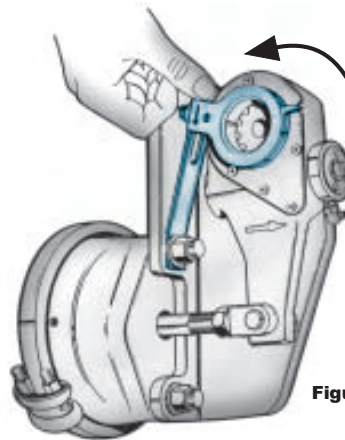

Figure 15
- Rotate the control arm away from the adjusting hex toward the air chamber, until it comes to a definite internal stop (fig. 15).